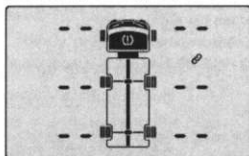

Figure 5-4-1
Hold SET 3s enter into parameter mode. Press Δ or ∇ to select to figure 5-4-1. Then press Δ or ∇ to select the tire location.
- 2 Press Δ or ∇ to select to figure 5-4-1